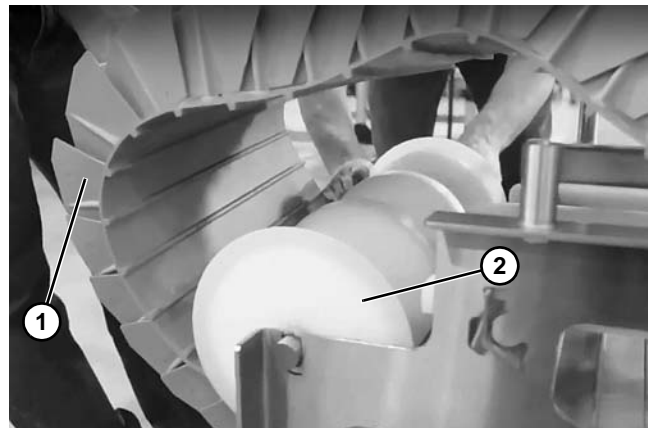

**Figure 77**
3. Remove the drive pulley assembly (**Figure 77, item 1**).